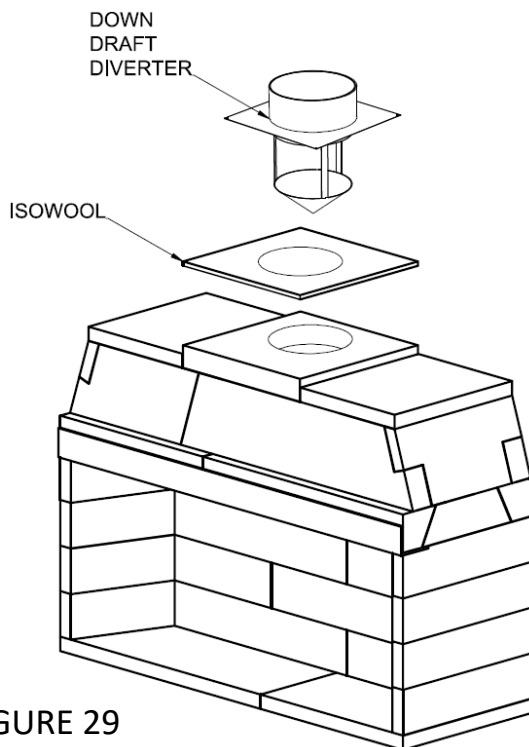

FIGURE 29
- 2) Center the Isowool blanket over Isokern Top Plate’s outlet and trace the outlet’s outline with a pen or marker. Cut a hole in the blanket along this outline to match the hole in the Isokern top plate. Center the cut Isowool blanket over the Isokern Top Plate flue opening, then center Anchor Plate over the Isowool blanket (**Figure 29**).
- 3) Secure the Anchor Plate with four (4) masonry anchors.